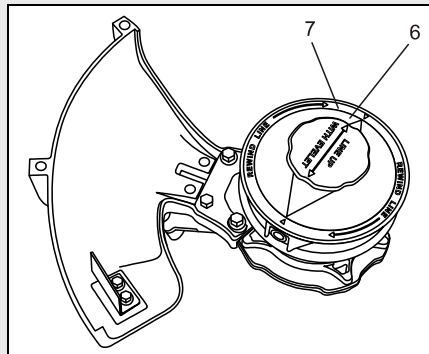

Fig. 7a
- b) Make sure the outer edge of the spool (6) is evenly positioned within the bump head (7) (Fig. 7a). If not, remove the spool and reinstall it properly.